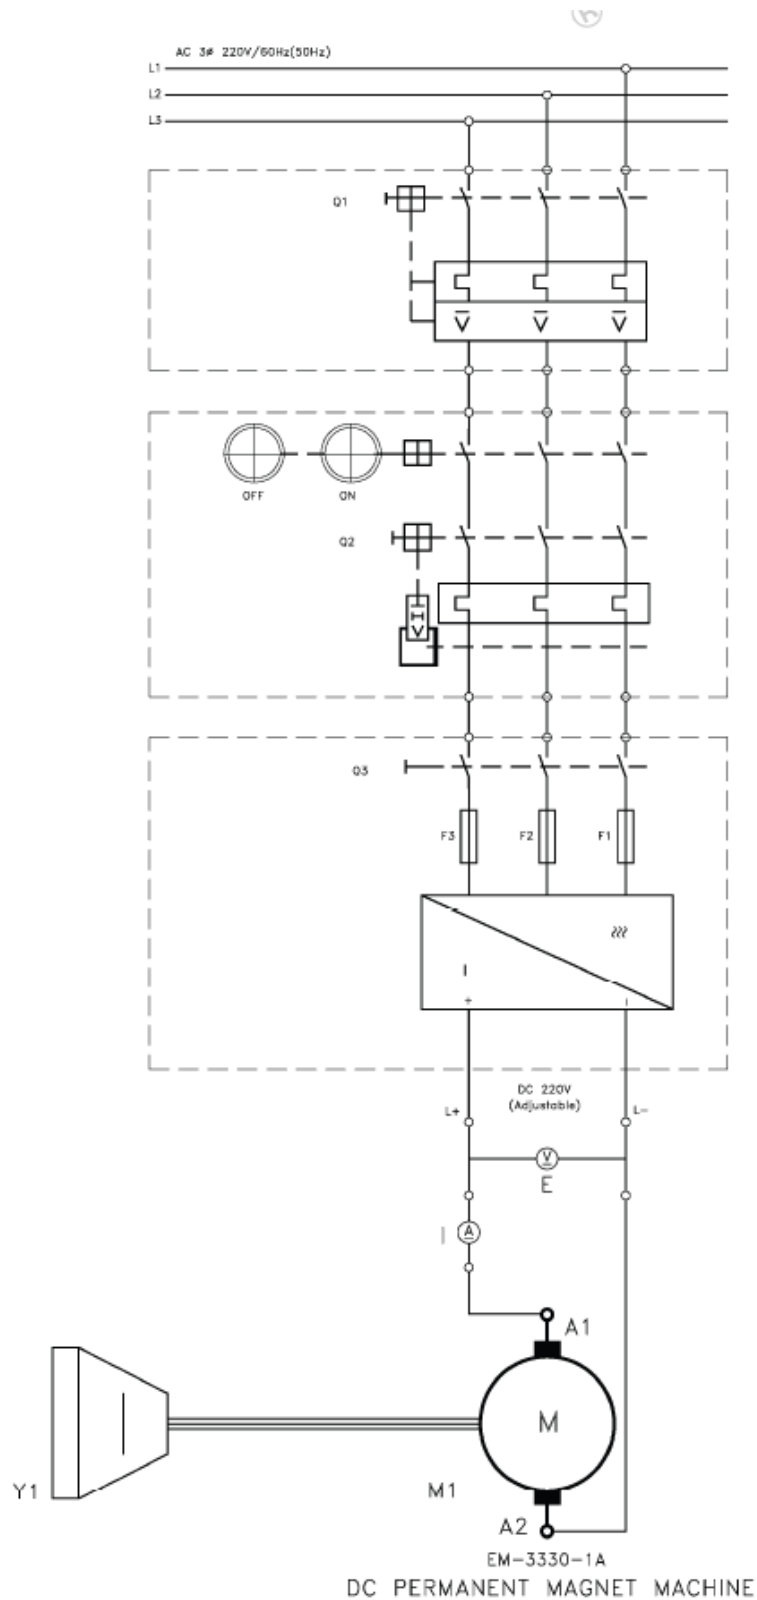
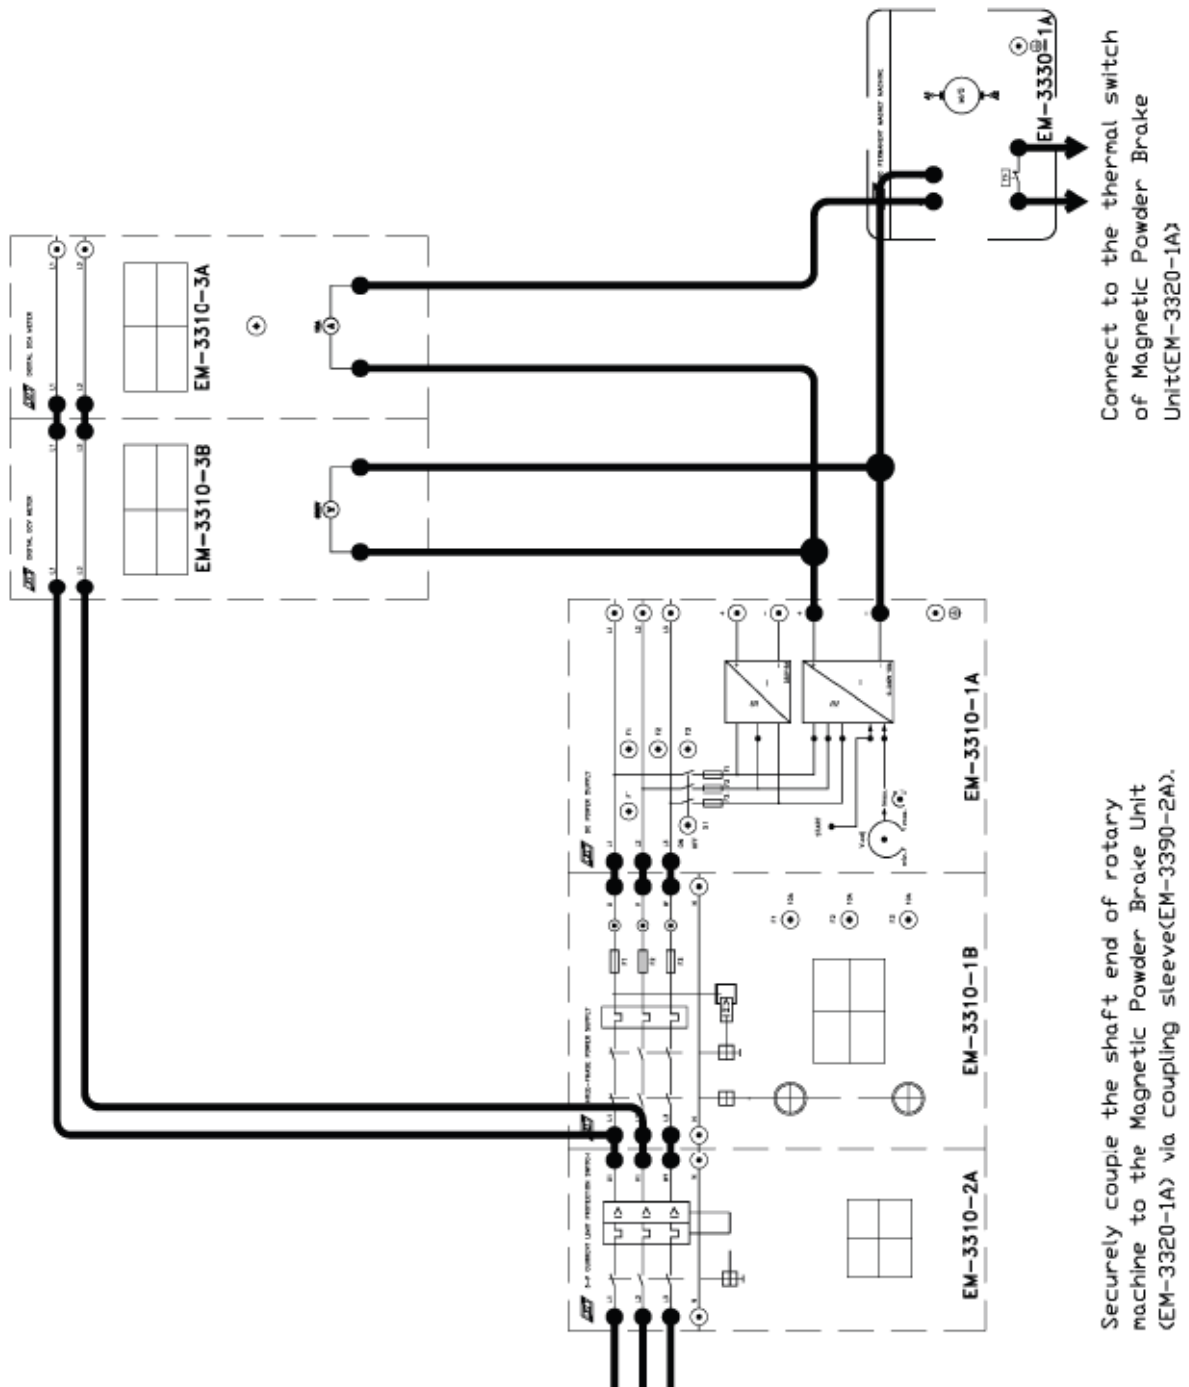

Fig. 3-2-1 Circuit diagram for torque-speed characteristic test
Fig. 3-2-2 Connection diagram for torque-speed characteristic test
2. Install the required Modules in the Experimental Frame. Construct the circuit in accordance with the circuit diagram in Fig. 3-2-1 and the connection diagram in Fig. 3-2-2. Have the instructor check your completed circuit. **Note:** The thermal switches of Permanent-magnet Machine and Magnetic Powder Brake Unit must be connected together.